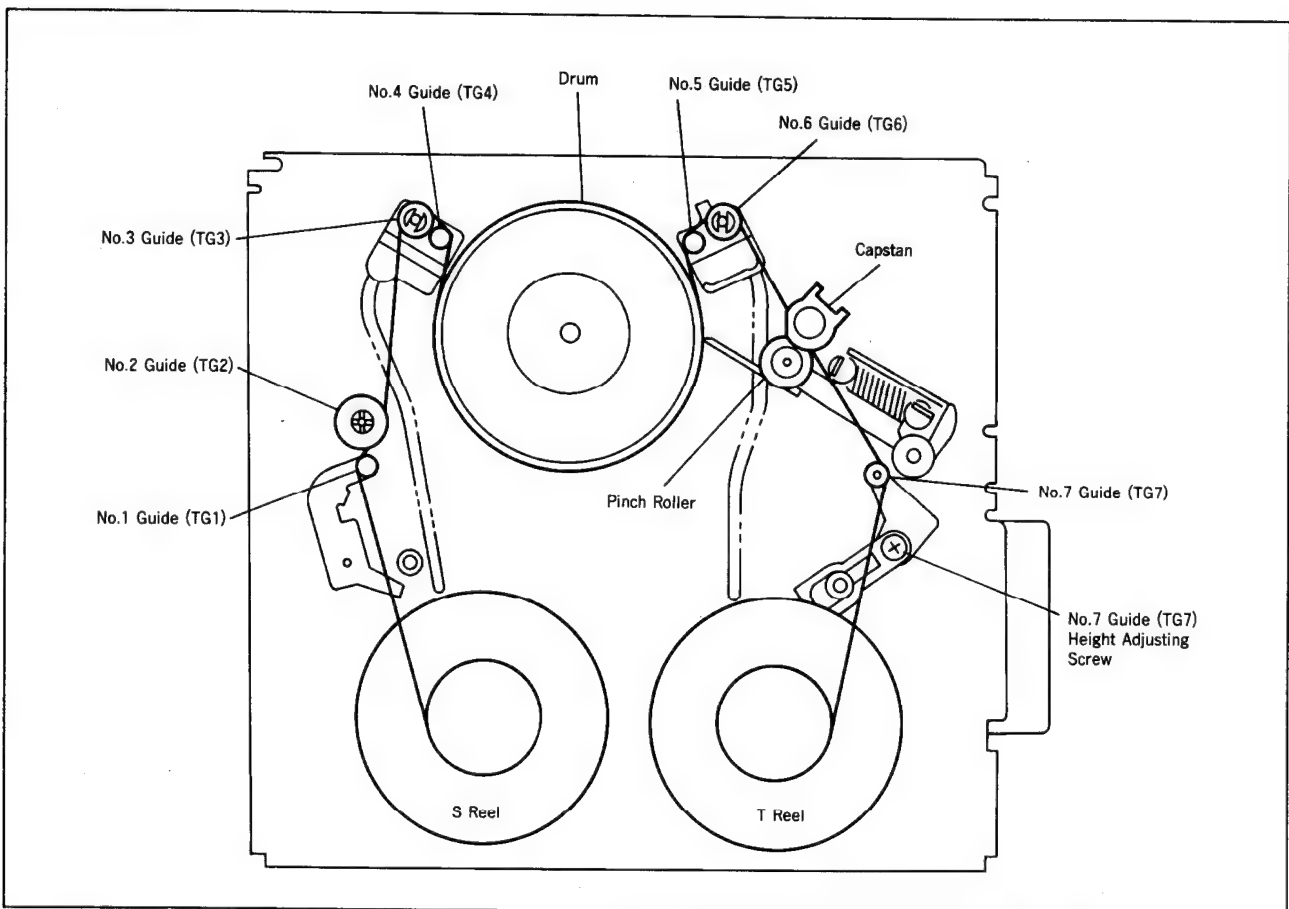

Fig. 34
- 1) Clean the tape running surface (tape guides, drum, capstan shaft, pinch roller) (Fig. 34).